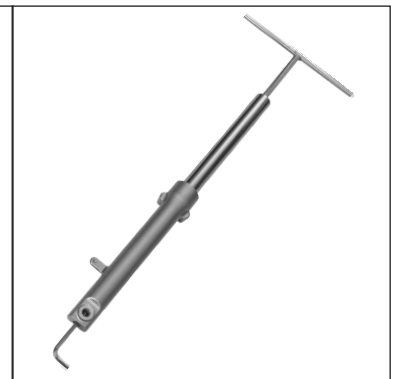

Fig. 1.11B
- Used to hold the front fork cylinder during fork leg assembly dismantling. (Fig. 1.11B)